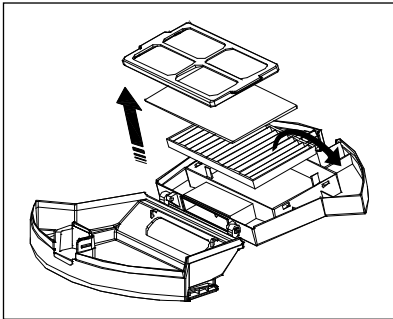

Fig. 10
- 4) Grasp the two tabs on the sieve filter and pull it off the EPA filter compartment **7**. Pull the EPA filter **7** and the foam filter by the tap out of the compartment (see Fig. 10).